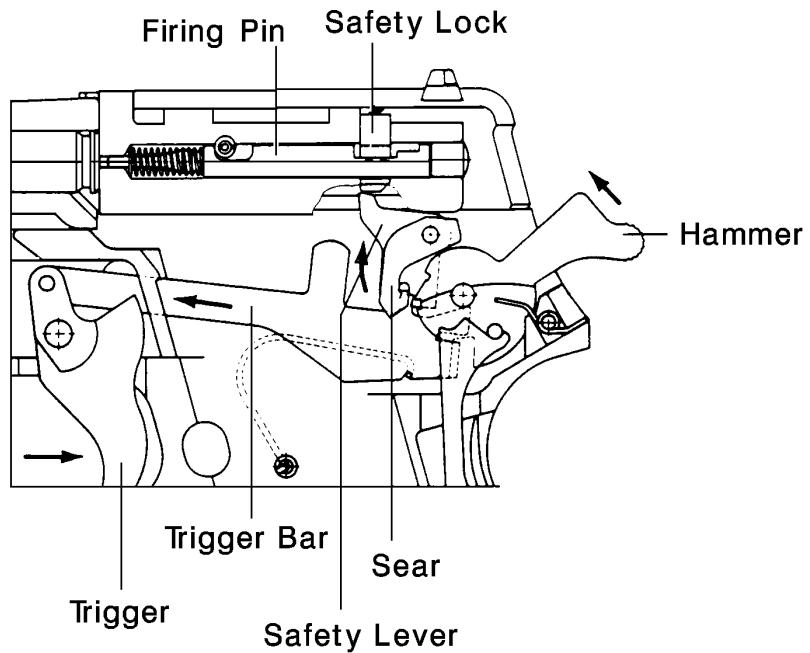

Figure 4 - Operation of the Trigger Mechanism
2. The weapon is loaded and the hammer decocked (at rest) (See Figure 4).